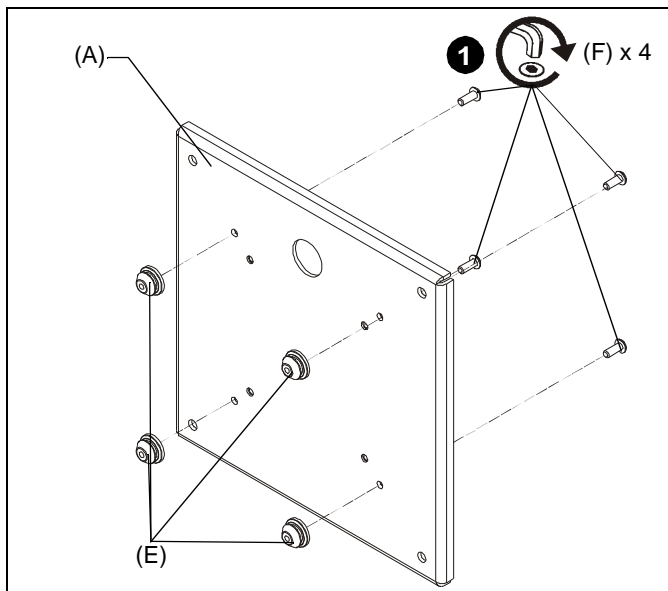

Figure 1
1. Attach mounting buttons (E) to interface bracket (A) using four 10-24 x 1/2" button head cap screws (F) and the 1/8" hex key (J). (See Figure 1)